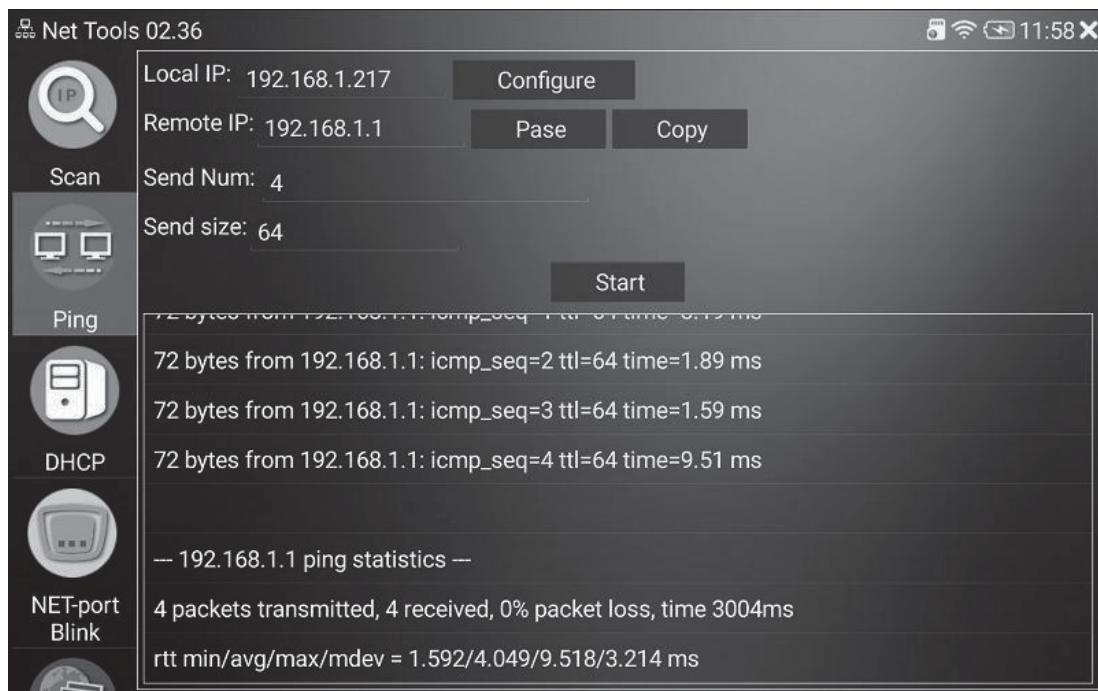

Figure 29
2)PING Tool: Touch ‘Ping’ icon on the left bar to perform network debugging conveniently, input ‘Remote IP’, ‘Send Num’ and ‘Send size’ can use default value, you can test current network condition and PING value, touch ‘Start’ button to perform this operation, as shown in Figure29